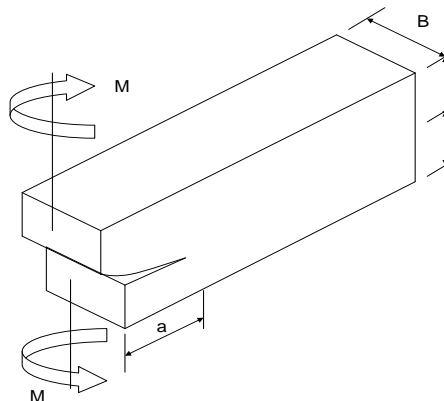

Figure 1
1. Determine the energy release rate for an edge crack loaded as shown in fig.1